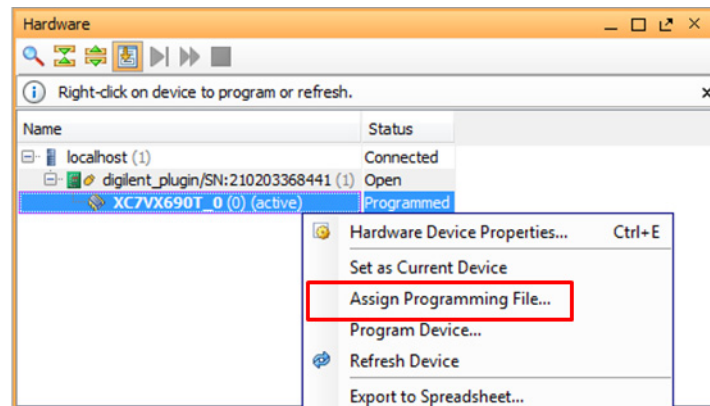

Figure 21: Assign Programming File
- In the Hardware window, right-click the XC7VX690\_T device, and select **Assign Programming File** as shown in Figure 21.